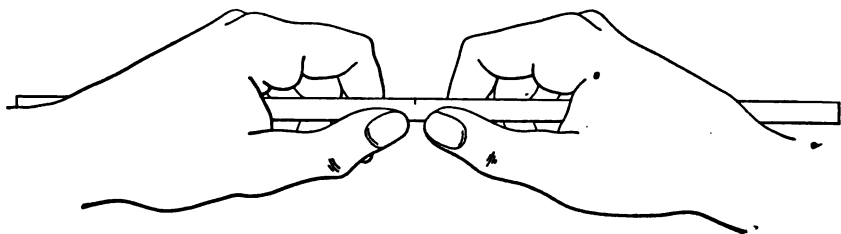

FIG. 17.
M. This is an old three-cornered file whose teeth are ground down so that three cutting edges are made. If I saw the glass tube with this sharp edge, it will crack. Then I break the tube apart with the crack furthest from me, so that it breaks off evenly (Fig. 17).